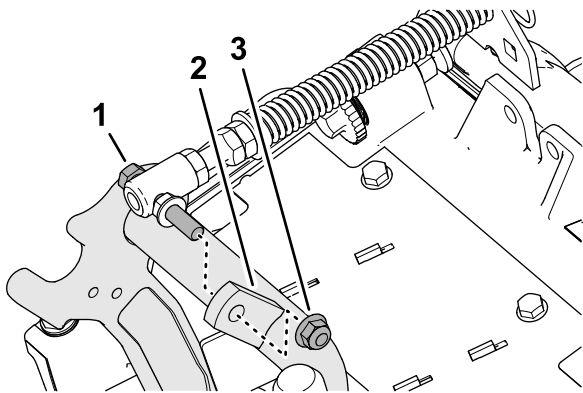

Figure 19
3. Remove the flange locknut (3/8 inch) that secures the capscrew of the turf compensation spring to the right tab of the carrier frame, and remove the compensation spring from the cutting unit (Figure 19).